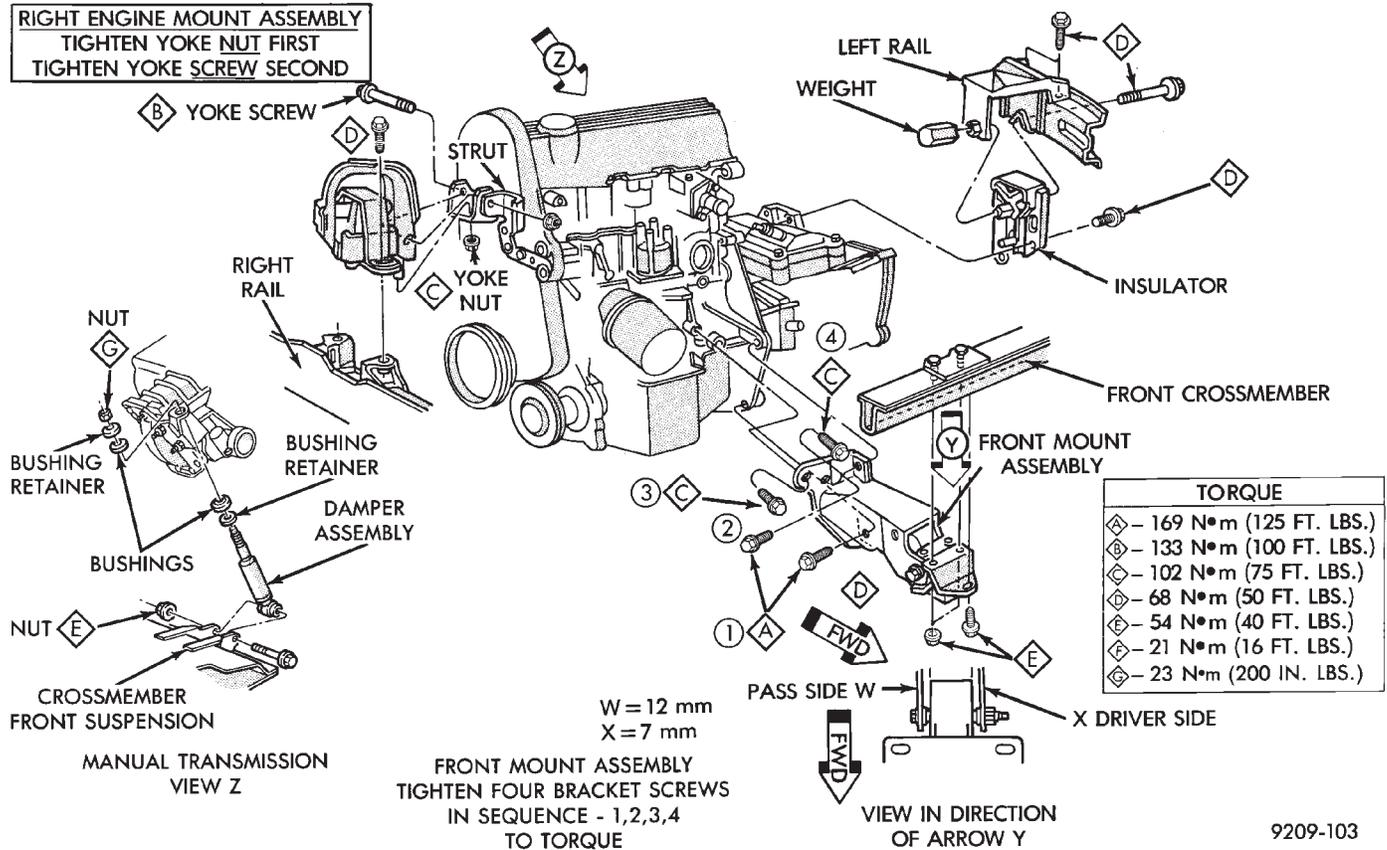

Fig. 3 Engine Mounting
- (1) Remove the right engine mount insulator vertical fasteners from frame rail.
- (2) Remove the load on the engine motor mounts by carefully supporting the engine and transmission assembly with a floor jack.
- (3) Remove the thru bolt from the insulator assembly. Remove insulator.
- (4) Reverse removal procedure for installation. Refer to (Fig. 3) for bolt tightening specifications.
- (5) Engine mount adjustment, Refer to Engine Mount Insulator Adjustment of this section.
- (1) Support the engine and transmission assembly with a floor jack so it will not rotate.
- (2) Remove the thru bolt from the insulator and front crossmember mounting bracket.
- (3) Remove the front engine mount bracket to front crossmember screws and nuts. Remove the insulator assembly.
- (1) Raise vehicle on hoist and remove left front wheel.
- (2) Remove inter splash shield.
- (3) Support the transmission with a transmission jack.
- (4) Remove the insulator thru bolt from the mount.
- (5) Remove the transmission mount fasteners and remove mount.
- (6) Reverse removal procedure for installation. Refer to (Fig. 3) for bolt tightening specifications.
- (7) Engine mount adjustment, Refer to Engine Mount Insulator Adjustment of this section.